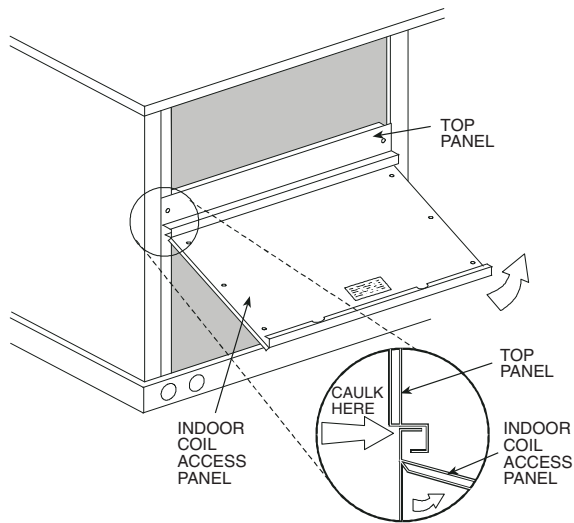

Fig. 14 — Indoor Coil Access Panel Relocation
1. The indoor coil access panel will be used as the top of the hood. Remove the screws along the sides and bottom of the indoor coil access panel. See Fig. 14.